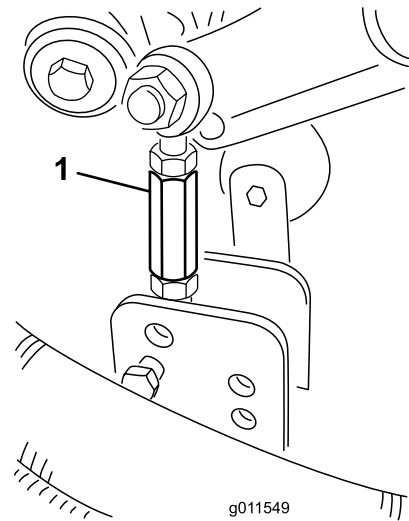

Figure 22
9. Remove the hairpin cottes and clevis pins securing the damper links to the mower-deck brackets (Figure 22).